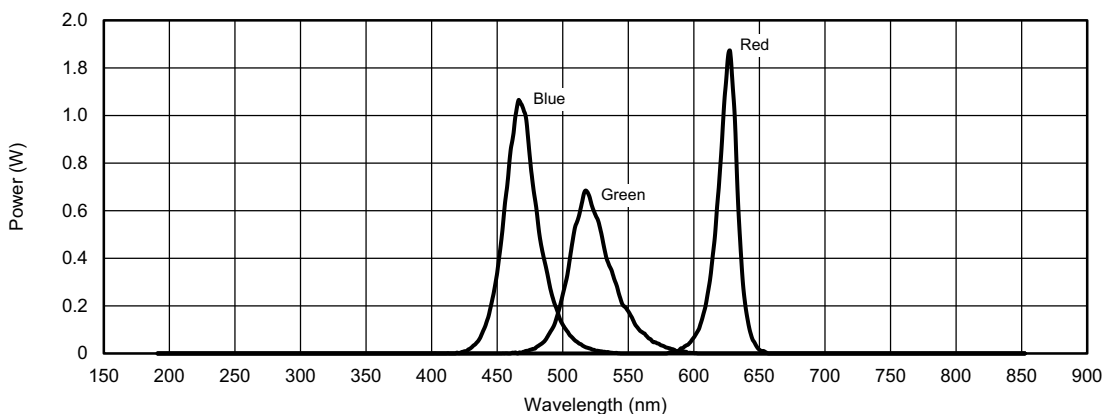

Fig. 1 - Normalized Spectral Response of Used LEDs for Measuring the Irradiance Responsivity
- (1) Test condition: VDD = 3.3 V, temperature: 25 °C
- (2) Light source: white LED
- (3) LED spectrum given in fig. 1; IT = 160 ms